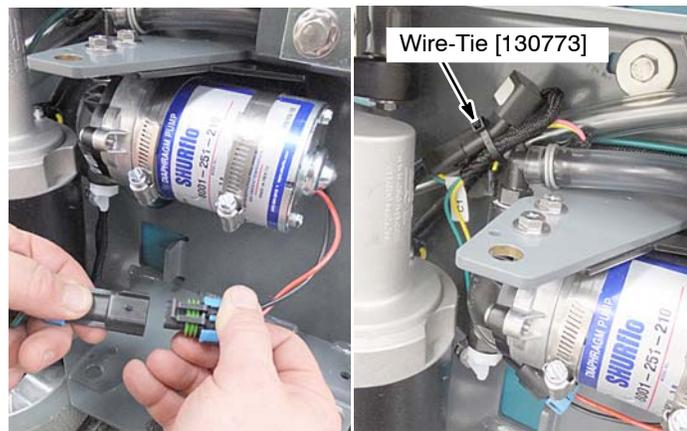

Fig. 43
- Plug the ec-H2O wire harness into the ec-H2O pump connector. Secure the wire harness and capacitor plug with a wire-tie as shown (Figure 43).